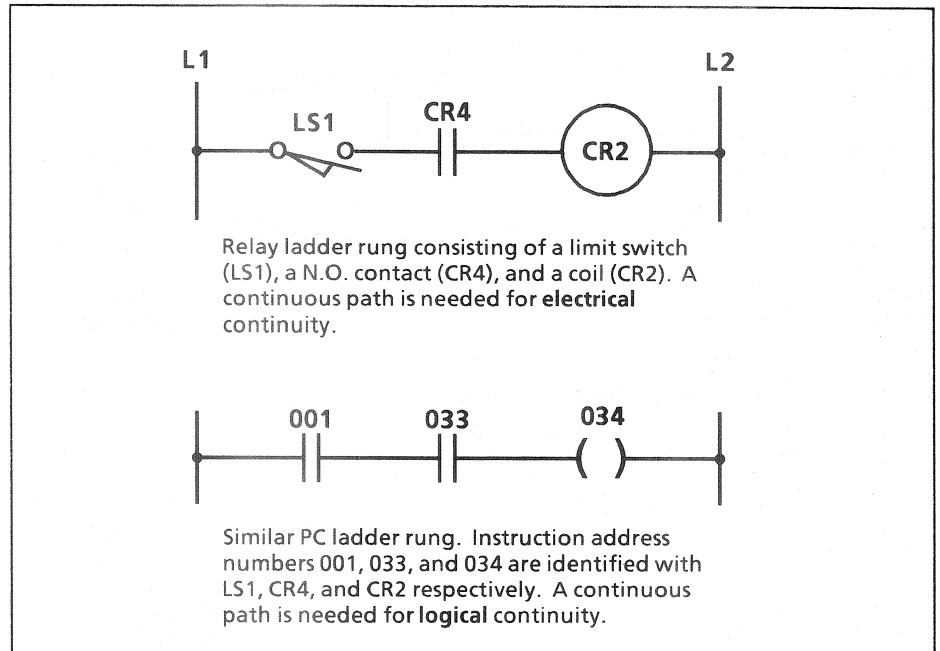

Figure 3.1 Relay ladder rung and a similar ladder rung used in programming the Modular Automation Controller.
3.1.1 Ladder Diagram Format – The programming format for the Modular Automation Controller is the *ladder diagram*, which uses symbology similar to hard-wired relay ladder circuits. Figure 3.1 shows a relay ladder rung as used in hard-wired relay control systems and a similar PC ladder rung as used in programming the Modular Automation Controller. With the relay ladder rung, *electrical* continuity is required to energize the output, whereas in the PC ladder rung, *logical* continuity is required to energize the output.
3.1.2 Instructions – In the PC ladder rung of Figure 3.1, the individual symbols represent *instructions*; the numbers 001, 033,